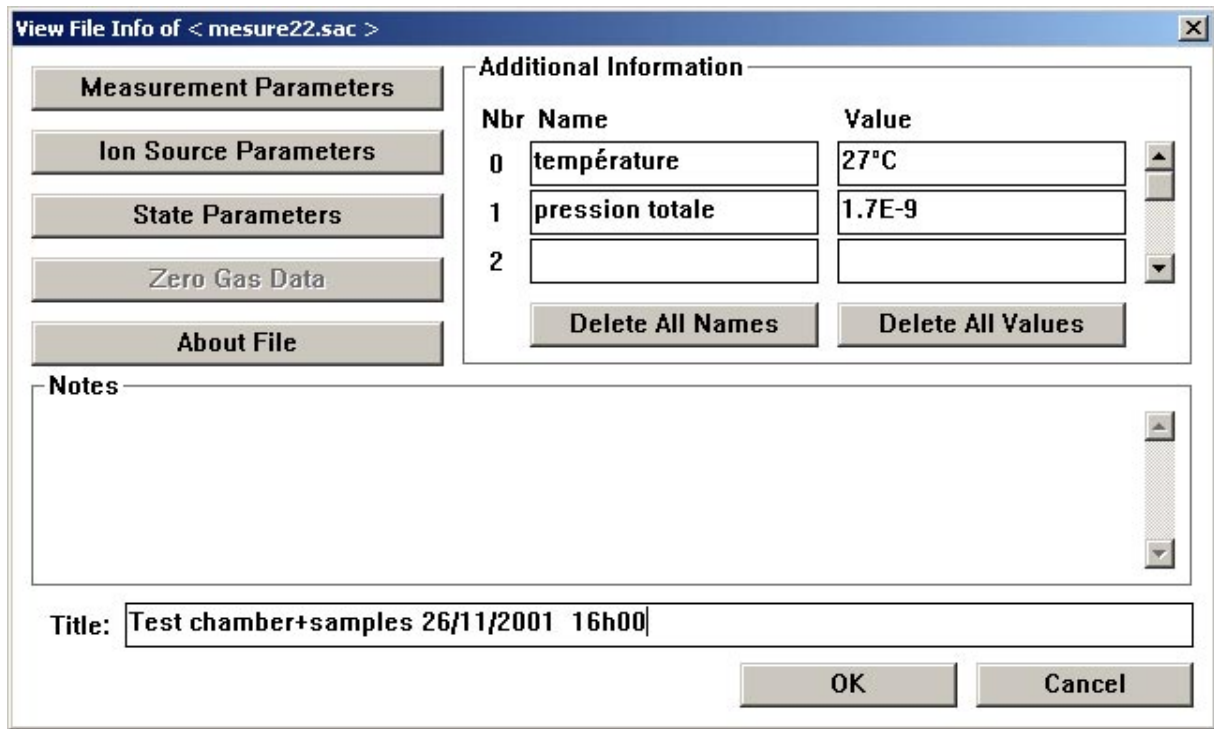

Fig.4: Residual gas spectrum (phase 2)
- The qualitative comparison between the residual gas composition in the empty test chamber (phase 1, fig.3) and in the test chamber with samples (phase 2, fig.4)